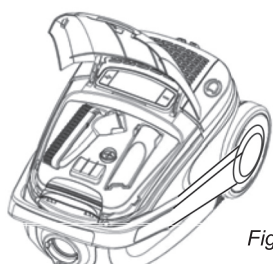

Fig. 5
■ The **combi brush** and the crevice nozzle are included in the package as accessories. You can store them in the accessory compartment when not in use (Fig. 5).